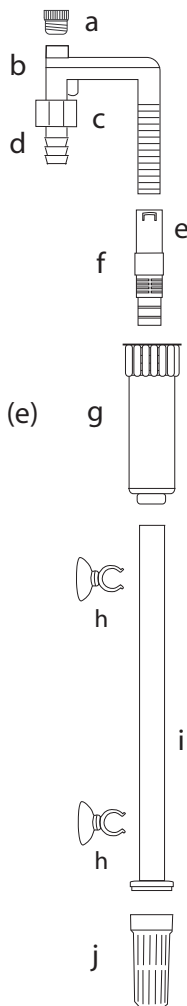

Fig 7
11. Refer to Figure 7 to assist you in assembling the intake. You will find that the Cap, (a) U Pipe, (b) Locking Nut (c) and Hose Tail (d) come as one piece from the factory. So to do the Surface Skimmer Adjuster, (e) Sleeve (f) and the Surface Skimmer. (g) If you wish to adjust how much water is drawn into the filter (once operating) by the Surface Skimmer (g) the Sleeve (f) can be adjusted to the desired level. Attach the Surface Skimmer (g) as a complete unit onto the longer side of the U pipe. (b) Attach the Intake Pipe (i) to the Surface Skimmer (g) then attach the Strainer (j) to the bottom of the Intake Pipe. (i) Attach Suction Cups (h) to the Intake Pipe. (i)